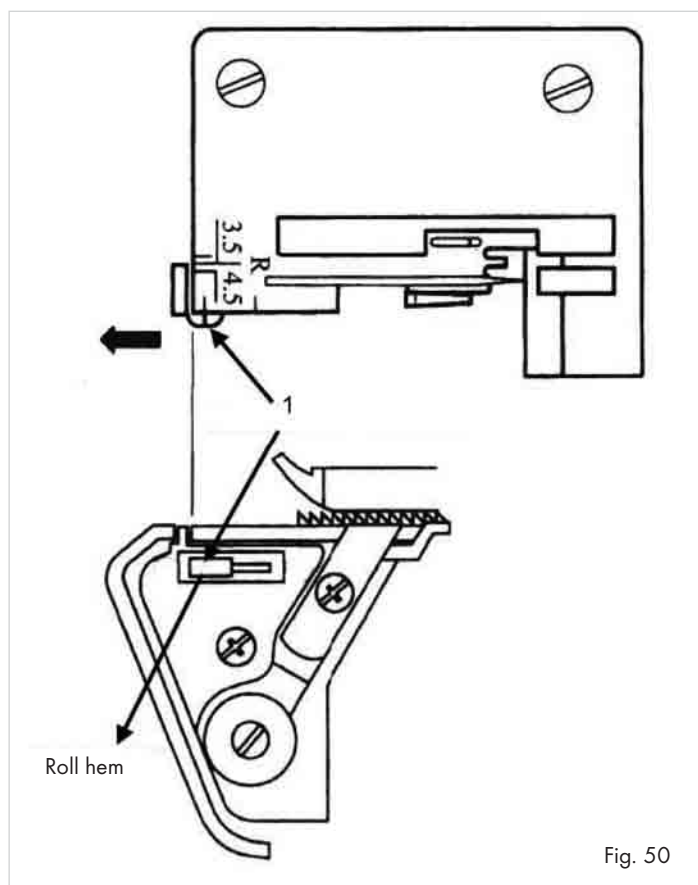

Fig. 50
- Open the front flap ⑩.
- Slide the seam width switch ⑬ to "R", so that the seam width finger is pushed backward (1) (Fig. 50).